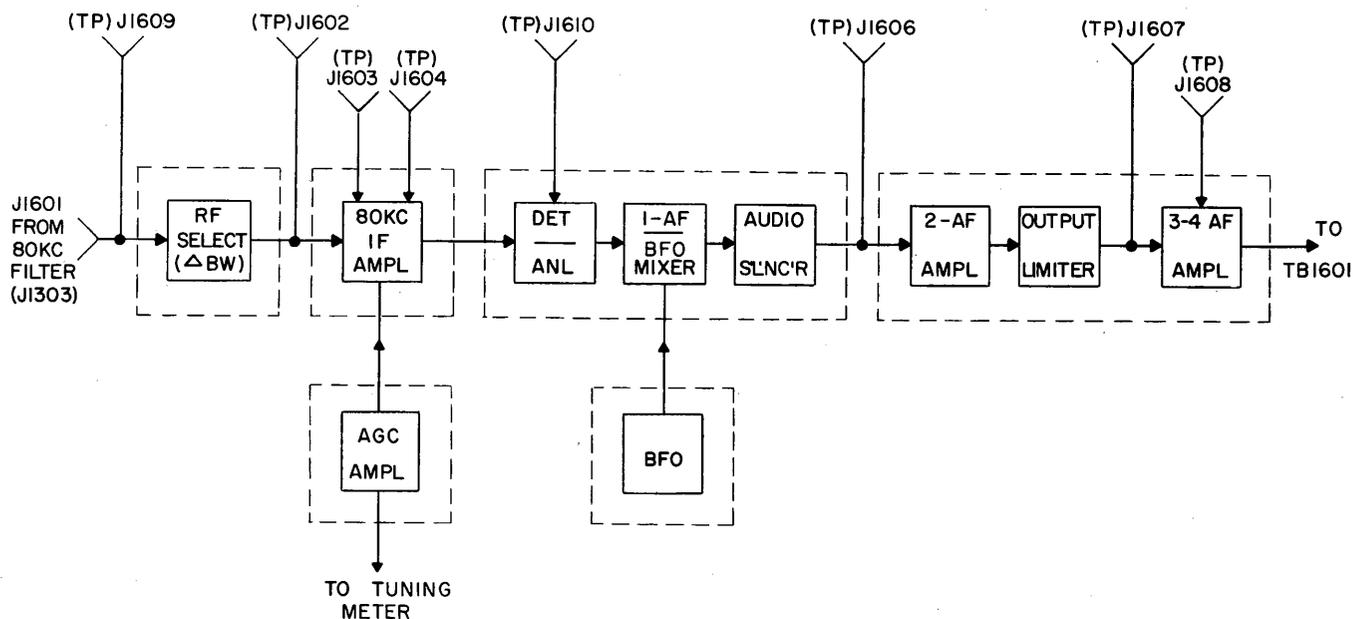

Figure 5-26. AM Detector-Amplifier, Functional Block Diagram
a. DIAGRAMS.— Figure 5-26 is a functional block diagram showing the relationship among circuit sections of the AM detector-amplifier. For a complete schematic diagram of this subassembly, refer to figure 6-18. Individual functional schematic diagrams of the circuit sections are as follows: